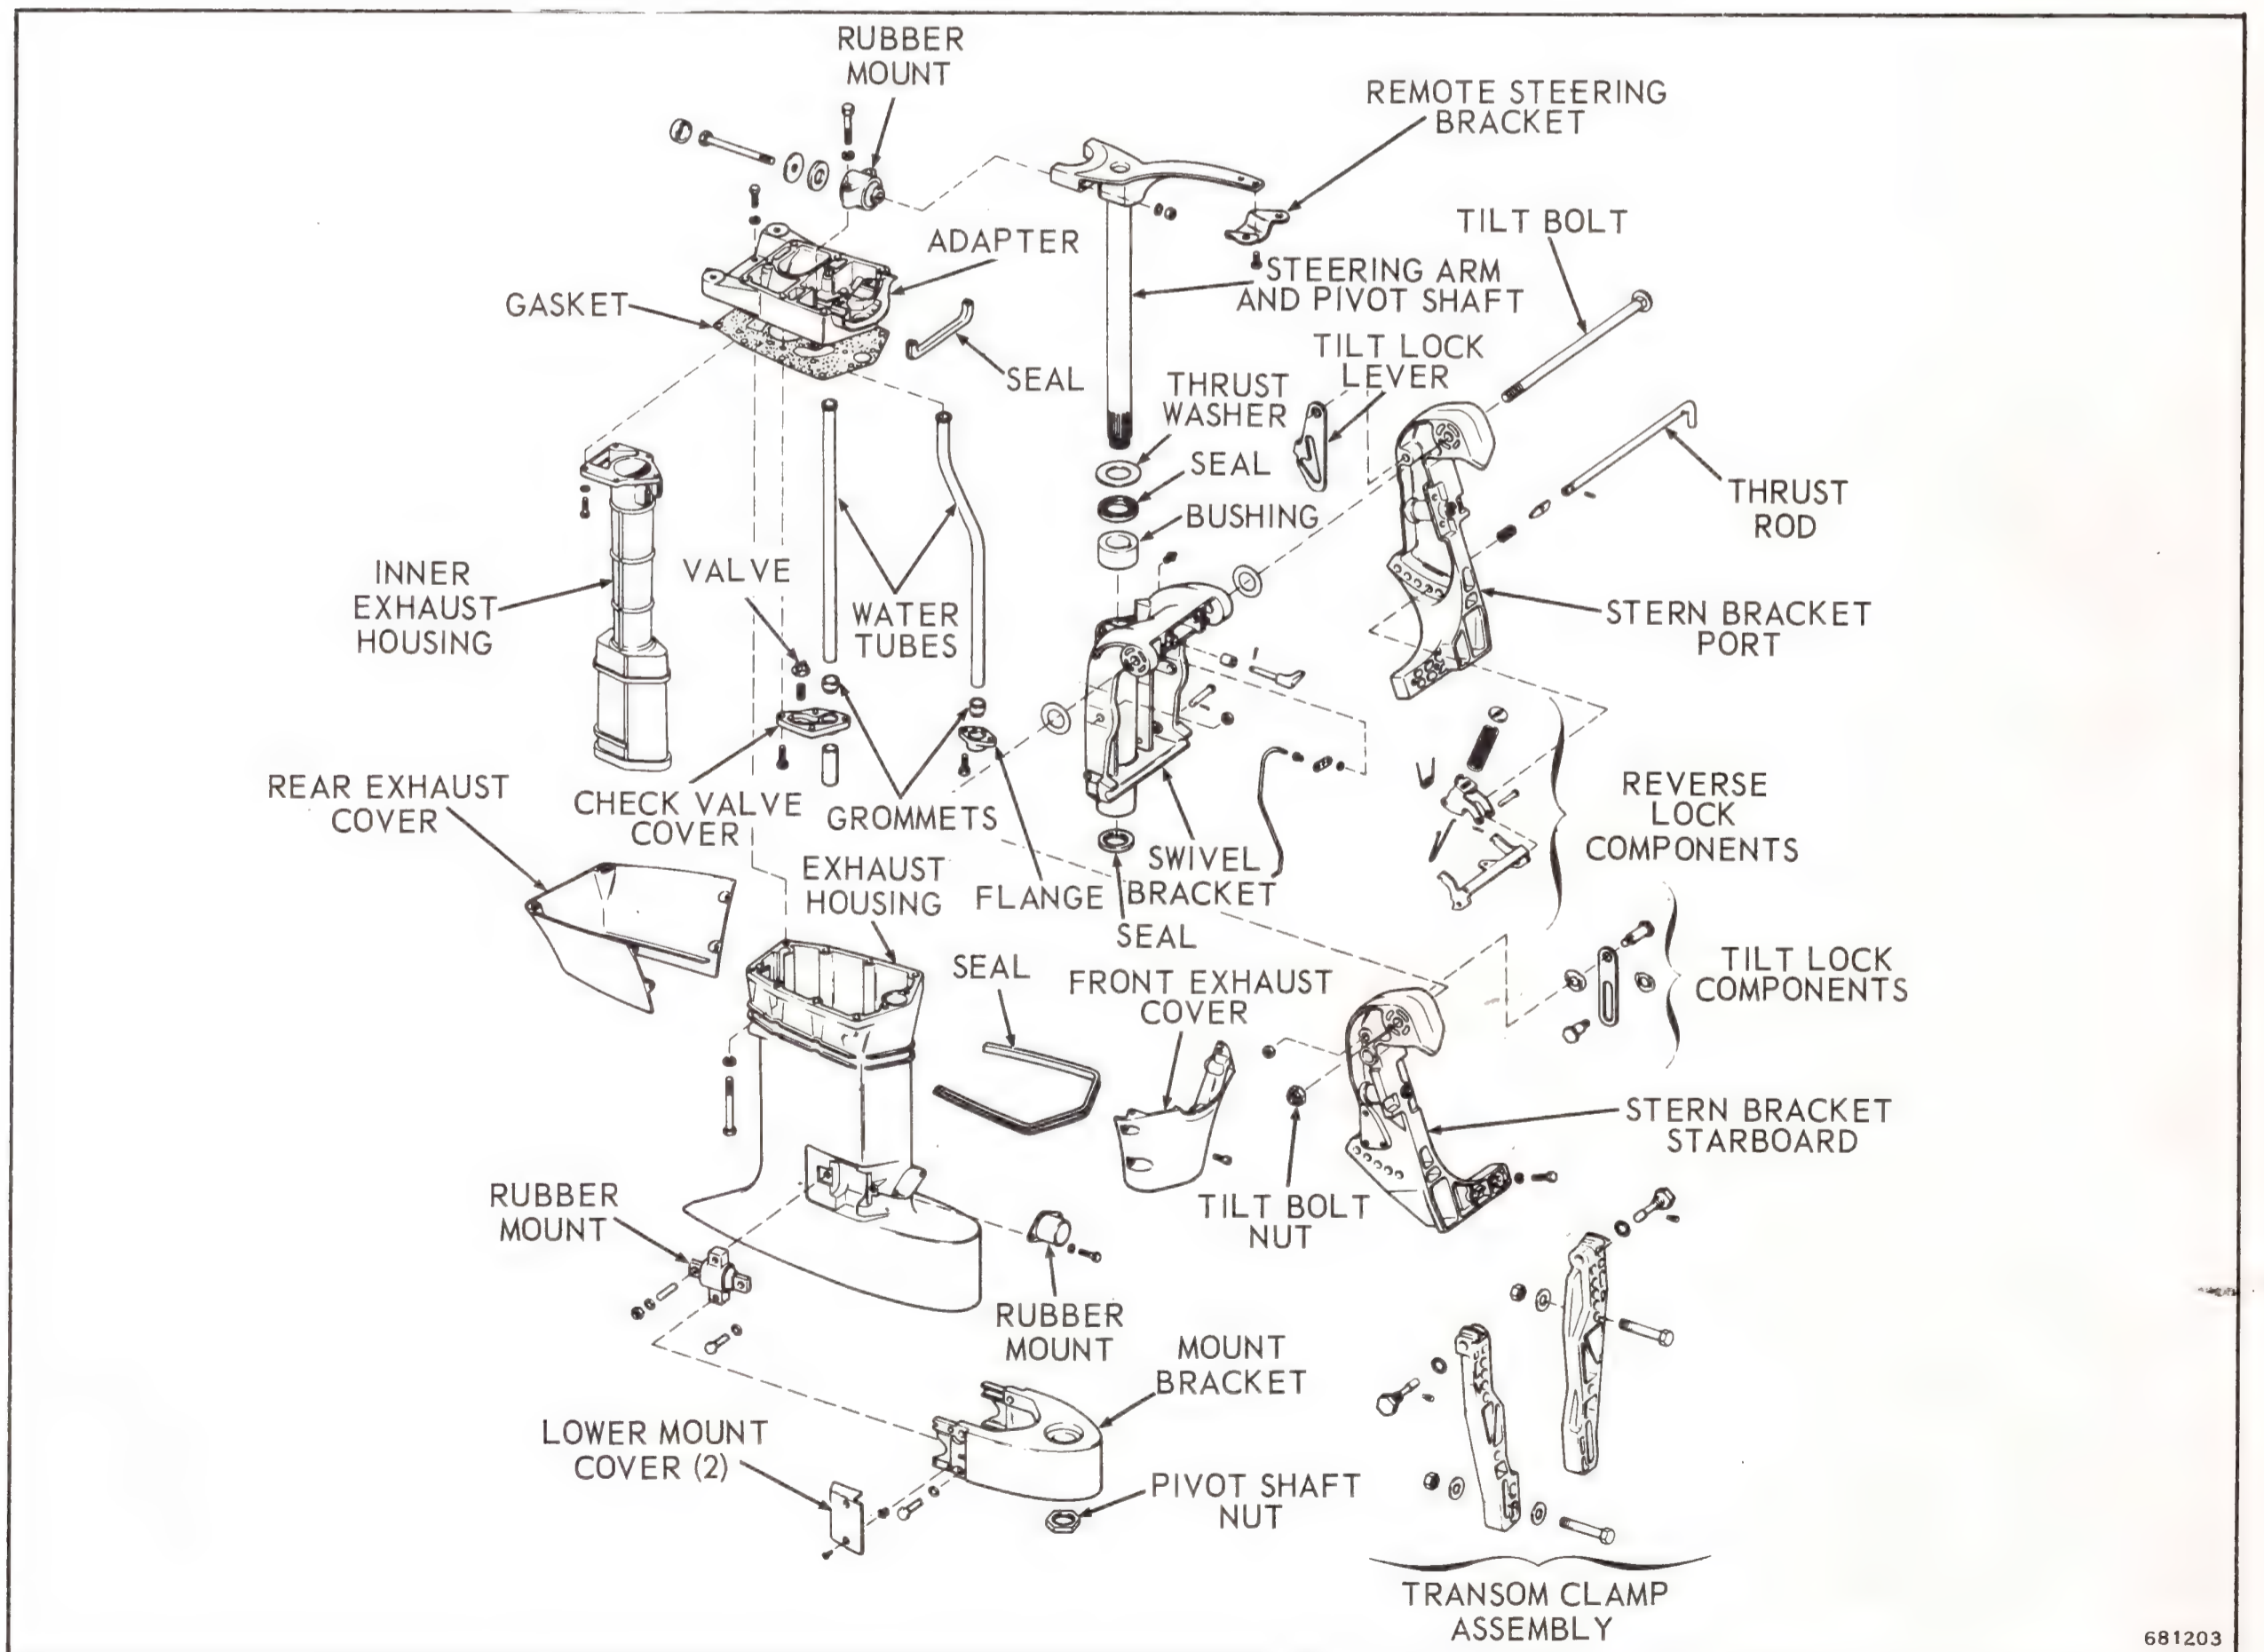

Figure 6-12. Exhaust Housing, Adapter, Stern and Swivel Brackets
d. Remove two screws fastening port and starboard stern brackets. Remove tilting shaft bolt, nut, and washers from top of stern brackets. See Figure 6-12.